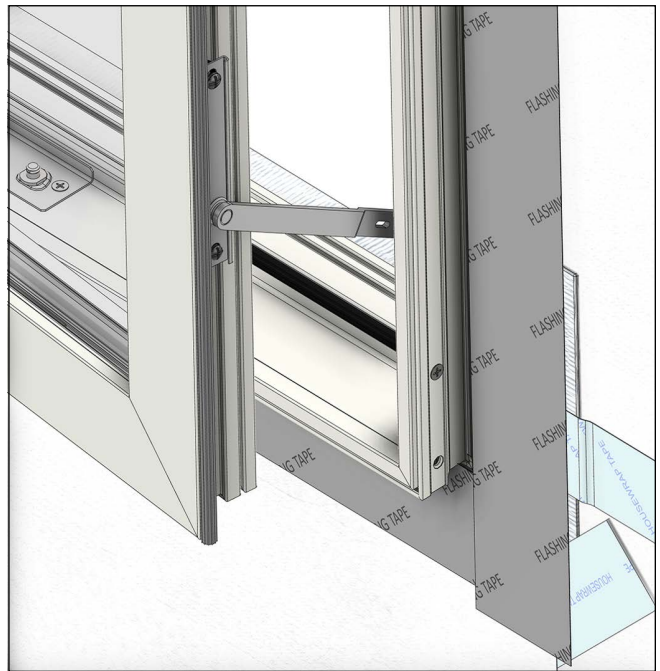
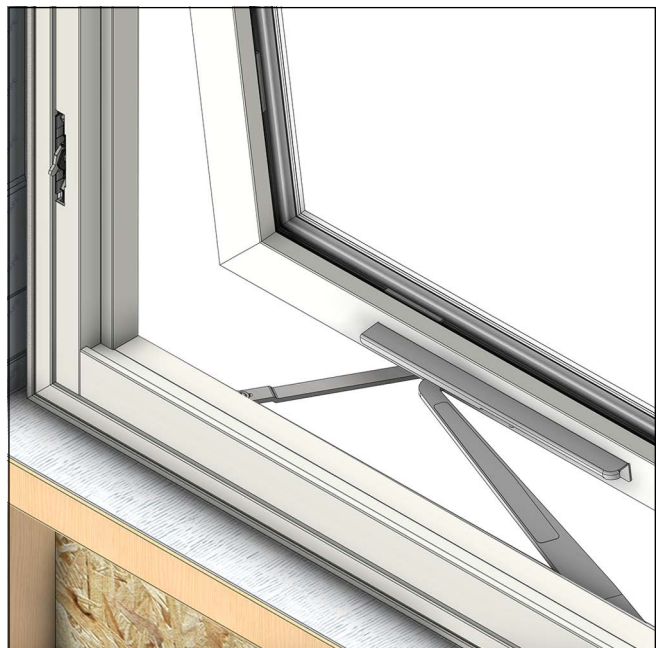

Figure 15 Casement Limiter Complete
Figure 16 Awning Limiter Complete
7. Remove the bottom of the jig by pulling it upwards and breaking it off. See Figure 15 - Figure 16.